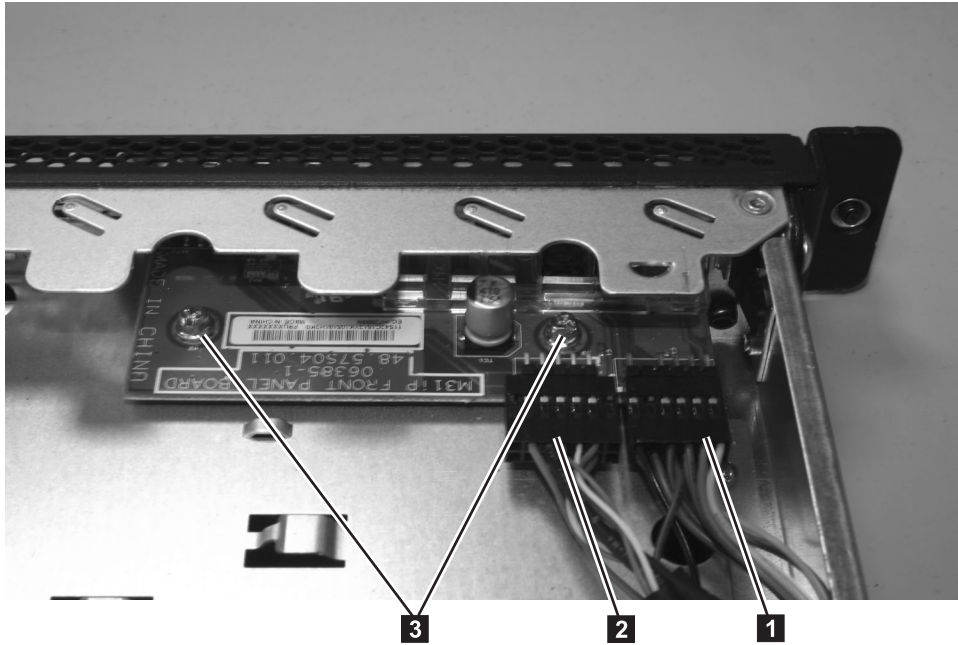

Figure 223. SAN Volume Controller 2145-8A4 operator-information panel
1. Connect the light panel cable **1** and the front USB cable **2**, shown in Figure 223 on page 239, to the operator-information panel board.